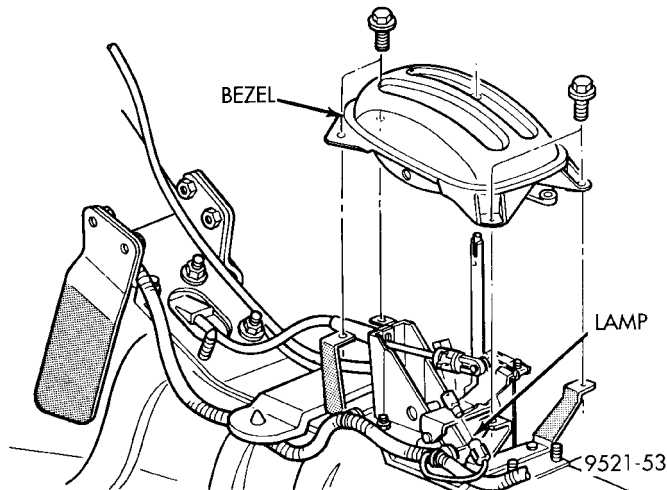

Fig. 9 Gearshift Bezel
(10) Remove gearshift indicator lamp at shifter bezel.
(11) Remove the screws retaining the shifter bezel (Fig. 9).